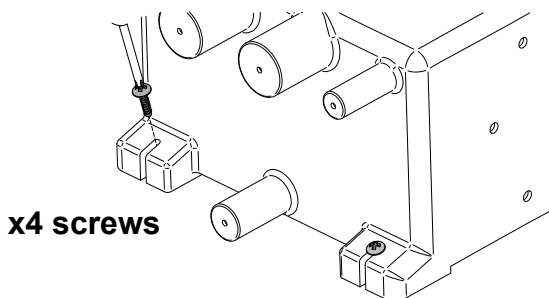
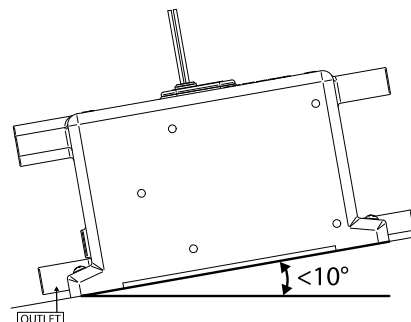

Figure 5 Securing The Tank
Figure 6 Maximum Possible Angle of Installation
Step 2: The tank **must be** secured using 4 appropriate screws, through the feet of the tank as shown in Figure 5. **NOTE:** The angle of the tank **must not** exceed 10° (Figure 6). **NOTE: Do not screw directly to the hull – MUST** be mounted on a bulkhead or an additional board.